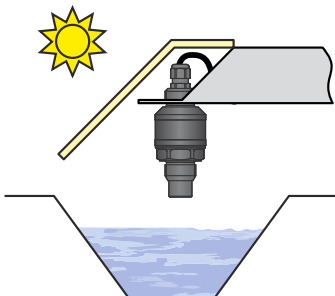

Fig. 12: Shielding cover against direct sunlight
- The measuring device shall not be installed in places with direct sunlight and shall be protected against weather conditions. If installation in places with direct sunlight is inevitable, it is necessary to mount a shielding cover above the device (Fig. 12).